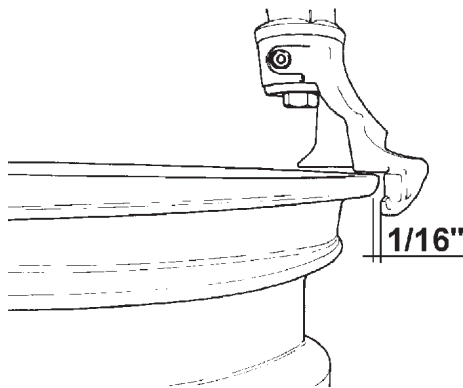

Fig. 4.1-4
E. Gently position the mount/demount head in contact with rim edge, now manually push the lock lever up and lock it into place. The tool automatically moves vertically up and away from the rim edge. Turn the swing arm adjustment knob until the mount/demount head moves horizontally away from the rim flange by approximately 1/16" (2mm): this is necessary to avoid any rim contact during the changing process. (Fig. 4.1-4).